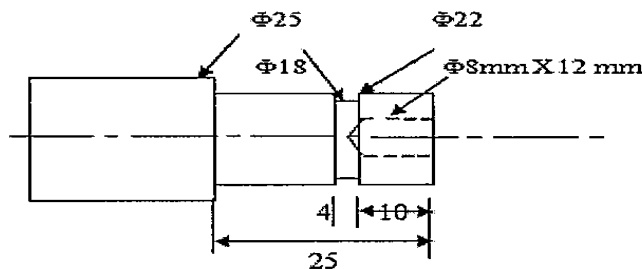

Fig. No. 1 (All dimension are in MM)
b) Write a CNC program in G and M code for a part as shown in fig No. 1. Also write a remark for each block. [12]